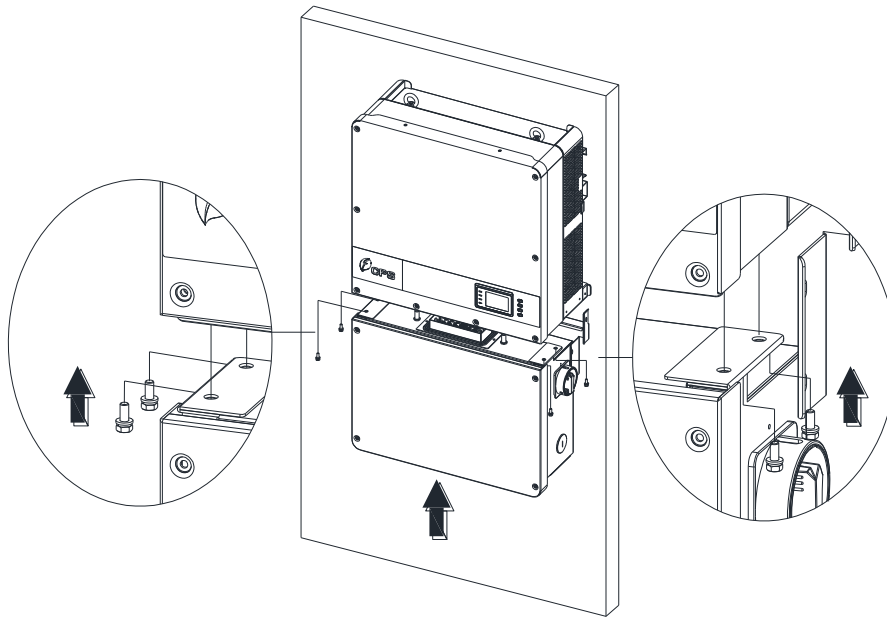

Figure 3-12 Installation of the Wiring Box
4. Secure the wiring box to the main enclosure by using the **M6x18 screws** (4pcs) to fasten the wiring box. (see Figure 3-12)